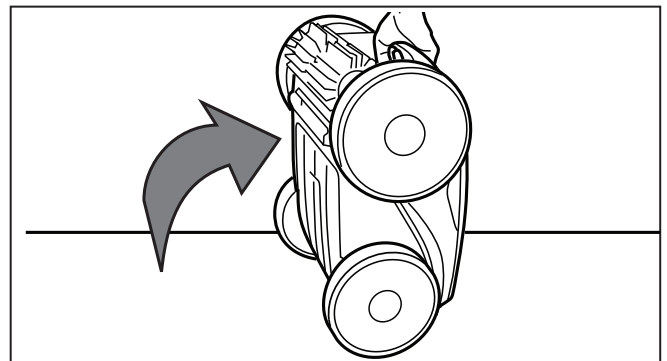

Figure 25. Stand Cleaner Upright
1. Stand the cleaner on its end in a vertical position (Figure 25).